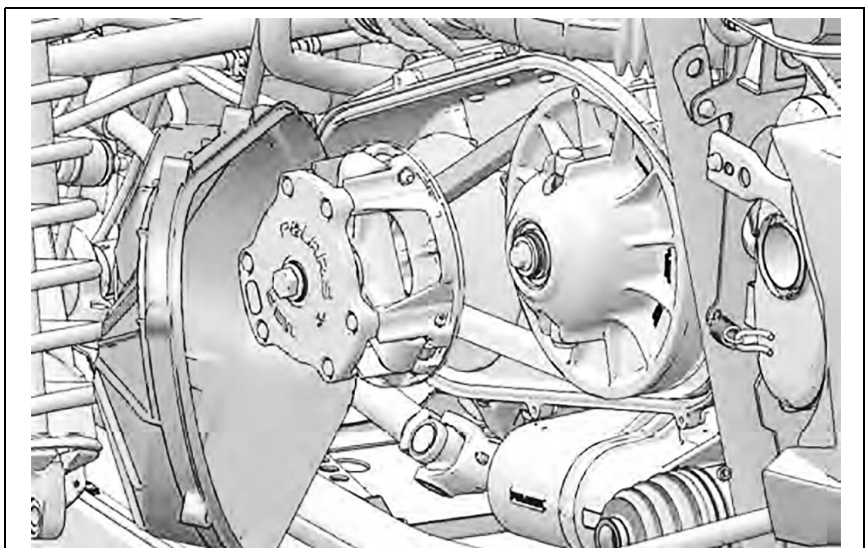

Figure 7
5. Mark the drive belt direction of rotation so that it can be installed in the same direction. Figure 7.